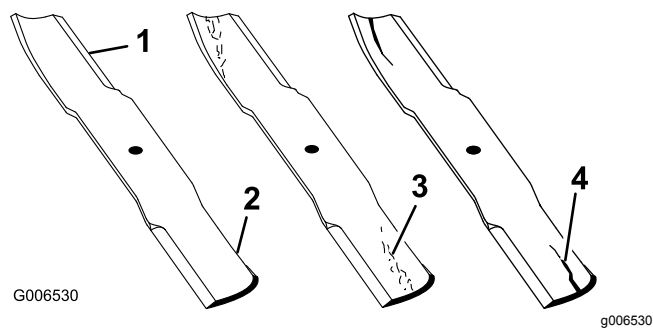

Figure 66
1. Inspect the cutting edges (Figure 66).
4. If you notice any cracks, wear, or a slot forming in this area, immediately install a new blade (Figure 66).